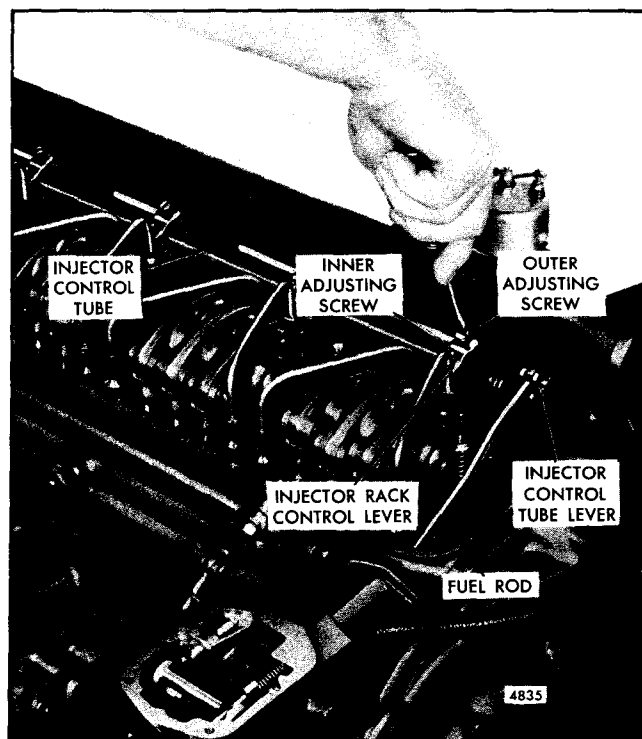

Fig. 2 - Positioning No. 1 Injector Rack Control Lever
1. Turn the outer adjusting screw (Fig. 2) in until a slight movement of the injector control tube lever is observed. Then tighten the inner adjusting screw.
4. Manually hold the No. 1 injector rack control lever in the full-fuel position and turn the inner adjusting screw (Fig. 2) into the No. 2 injector rack control lever until the injector rack has moved into the full-fuel position and the inner adjusting screw is bottomed on the injector control tube. Turn the outer adjusting screw down until it bottoms lightly on the injector control tube. Then alternately tighten both the inner and outer adjusting screws.